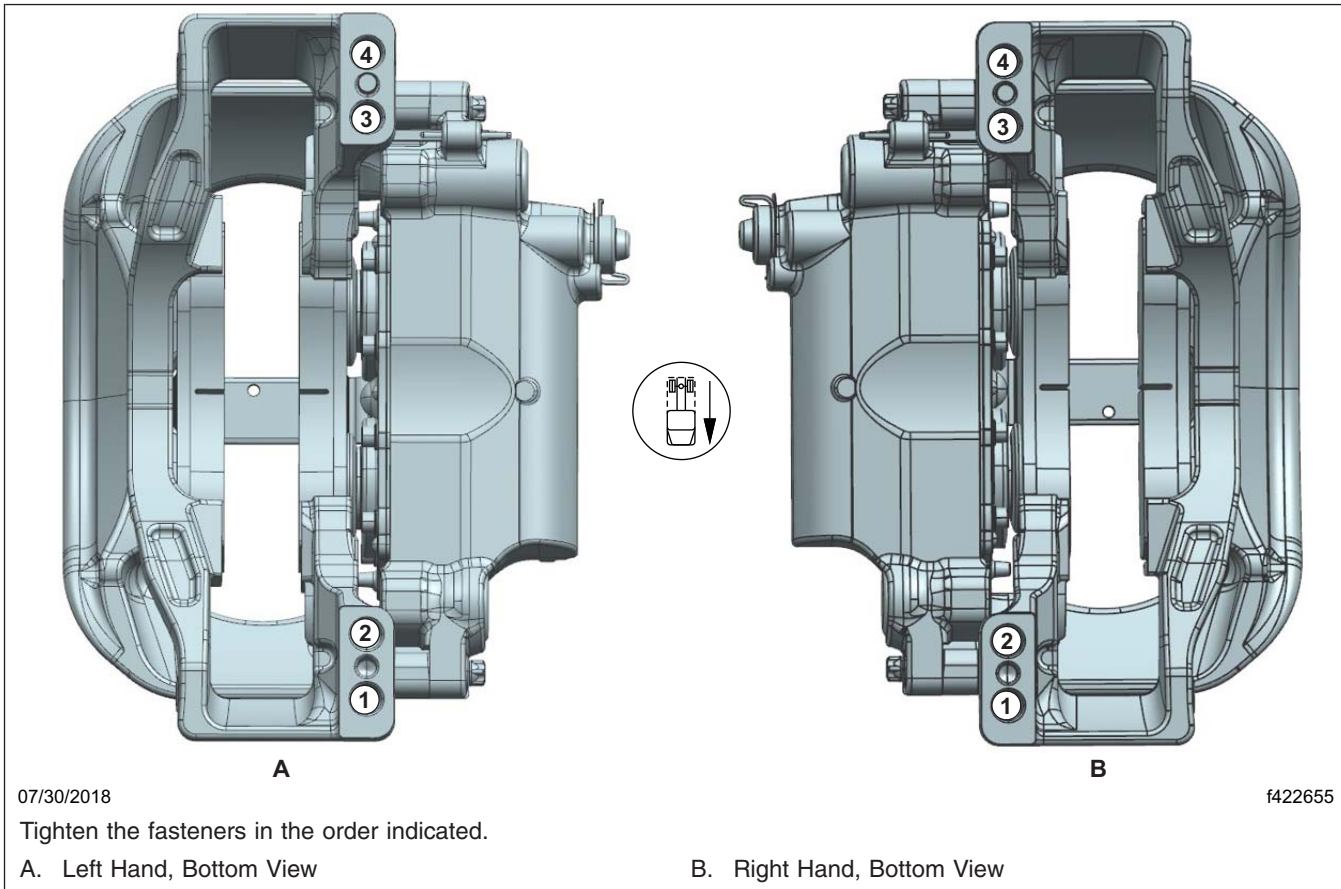

Fig. 13, Meritor Radial Mounted Caliper Tightening Pattern
4. Set a torque wrench to 350 lbf-ft (475 N-m) and tighten the caliper mounting bolts following the tightening pattern shown in **Fig. 13**. If they do not turn, no further work is needed. If they turn, take the vehicle to an authorized Freightliner dealer to have all of the caliper bolts on that wheel end replaced.